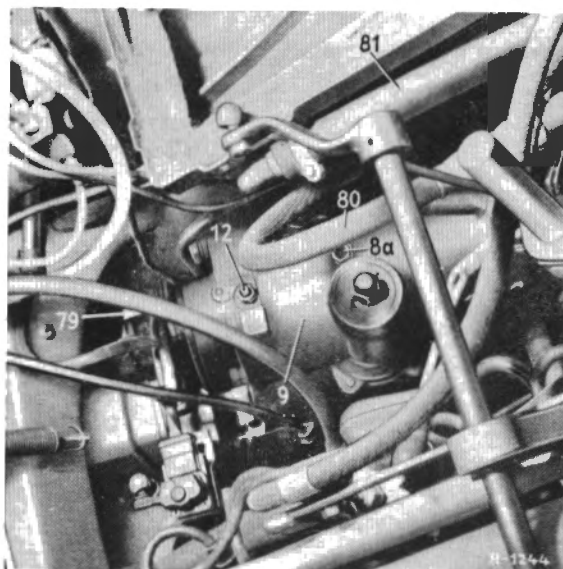

Fig. 46-25/2
5. Press the center tie rod off the steering gear arm using Fixture 111 589 08 33 (Fig. 46-25/3).
6. Press the tie-rod off the steering gear arm using Fixture 186 589 10 33 (Fig. 46-25/4).